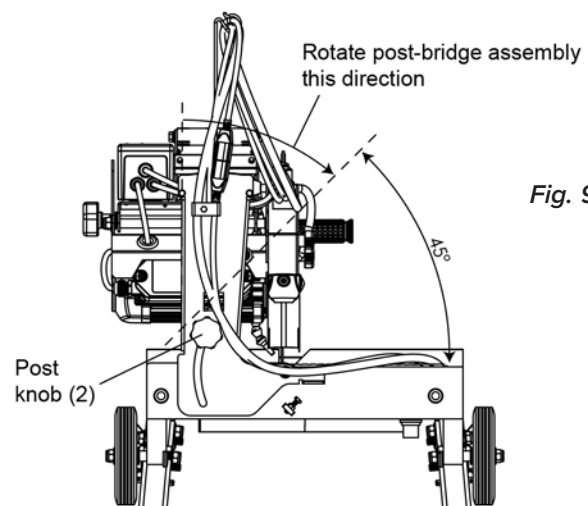

Fig. 9
2. Set the bridge to the desired angle by using both hands to firmly hold it and rotate it until it stops. While still holding the bridge at the desired angle, tighten each post knob. (see figure 9)